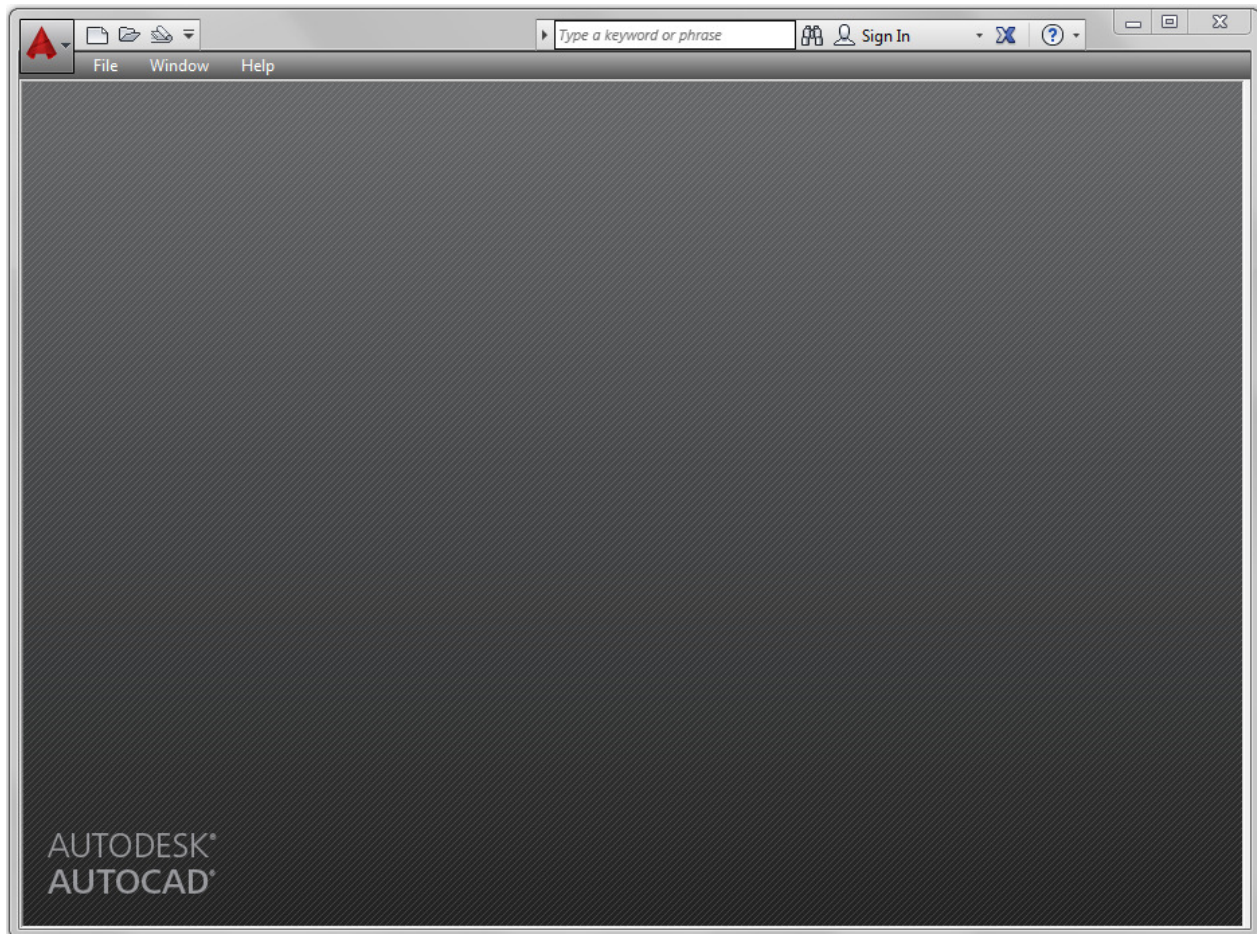

Figure Step 1
Step 1 Launch AutoCAD. AutoCAD's blank window will display. (Figure Step 1)